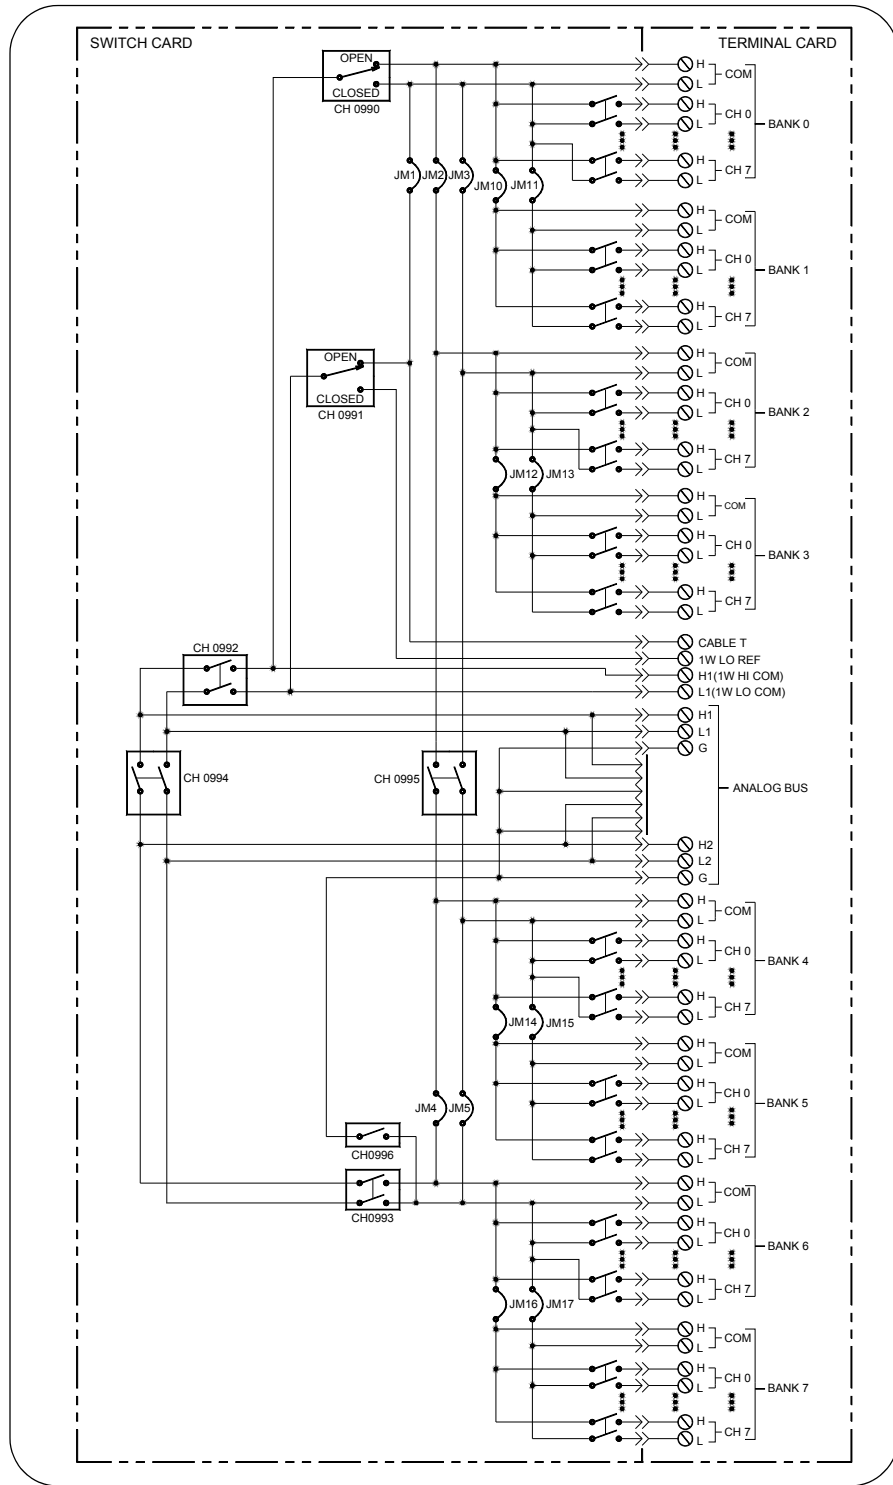

Figure 1-1. E1460A Multiplexer Block Diagram
The channel relay switches are separated into eight banks. Each bank has eight switchable channels and a COM channel. Each channel has a separate HI (H) and LO (L) line. See Figure 1-1 for a block diagram.
The relay switch card has thirteen factory-installed wire jumpers (see Figures 1-1 and 1-5) that connect COM lines of banks together to form dual 1x32 channel configurations. These wire jumpers can be changed to reconfigure the switch card to various 8-channel or 16-channel configurations.